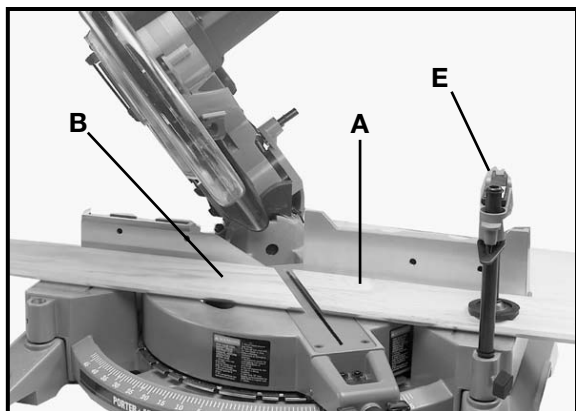
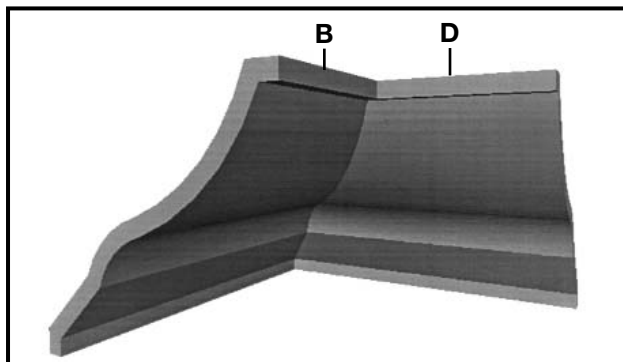

Fig. 42
Fig. 45
3. Place the crown moulding on the table with the **CEILING EDGE** of the moulding against the fence, and make the cut, as shown in Fig. 42.
**NOTE:** The piece of crown moulding used for the outside corner will always be on the right hand side of the blade, as shown at (A) Fig. 42. The piece of crown moulding used for the inside corner will always be on the left hand side of the blade, as shown at (B) Fig. 42. Note that the accessory work clamp (E) is being used to hold the workpiece in position.
7. Fig. 45 illustrates the two inside corner pieces; (1) being the piece cut at (B) Fig. 42, and (2) being the piece cut at (A) Fig. 42.